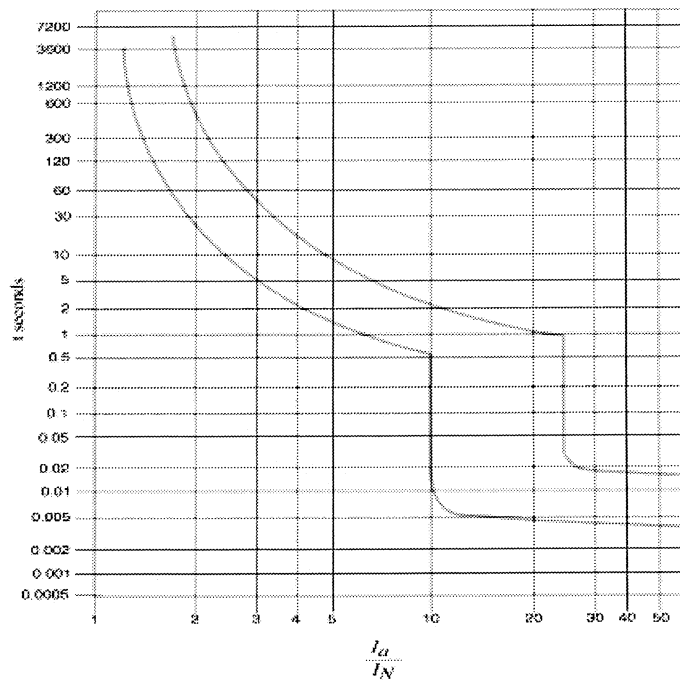

Figure T.2
2. Determine the suitability of a 16 A circuit breaker with a tripping characteristic in the range shown in Figure T.2. The circuit breaker is to protect a circuit supplying a motor that takes 5 seconds to start and has a maximum starting current of 80 A. Show all work and mark on the diagram how you arrived at your answer.